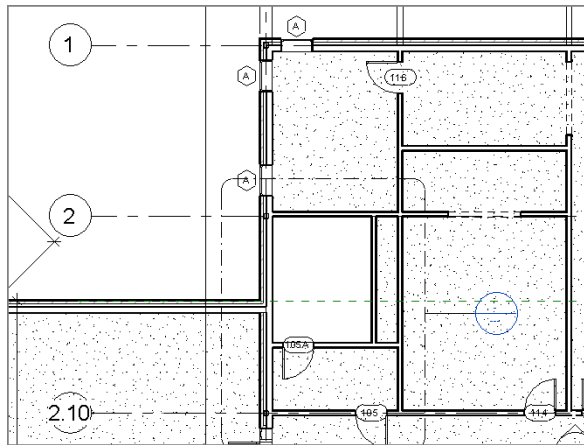

FIGURE 9.38: The lavatory area
2. Zoom in on the lavatory area, and turn off the thin lines mode, as shown in Figure 9.38.